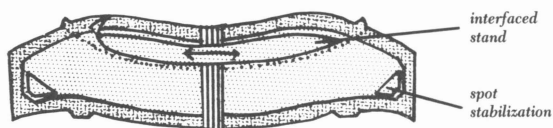

Figure 20. Spot stabilization.
9. Fuse the triangles to the collar points $\frac{1}{8}$ inch (3 mm) in from the first interfacing edges (Figure 20).